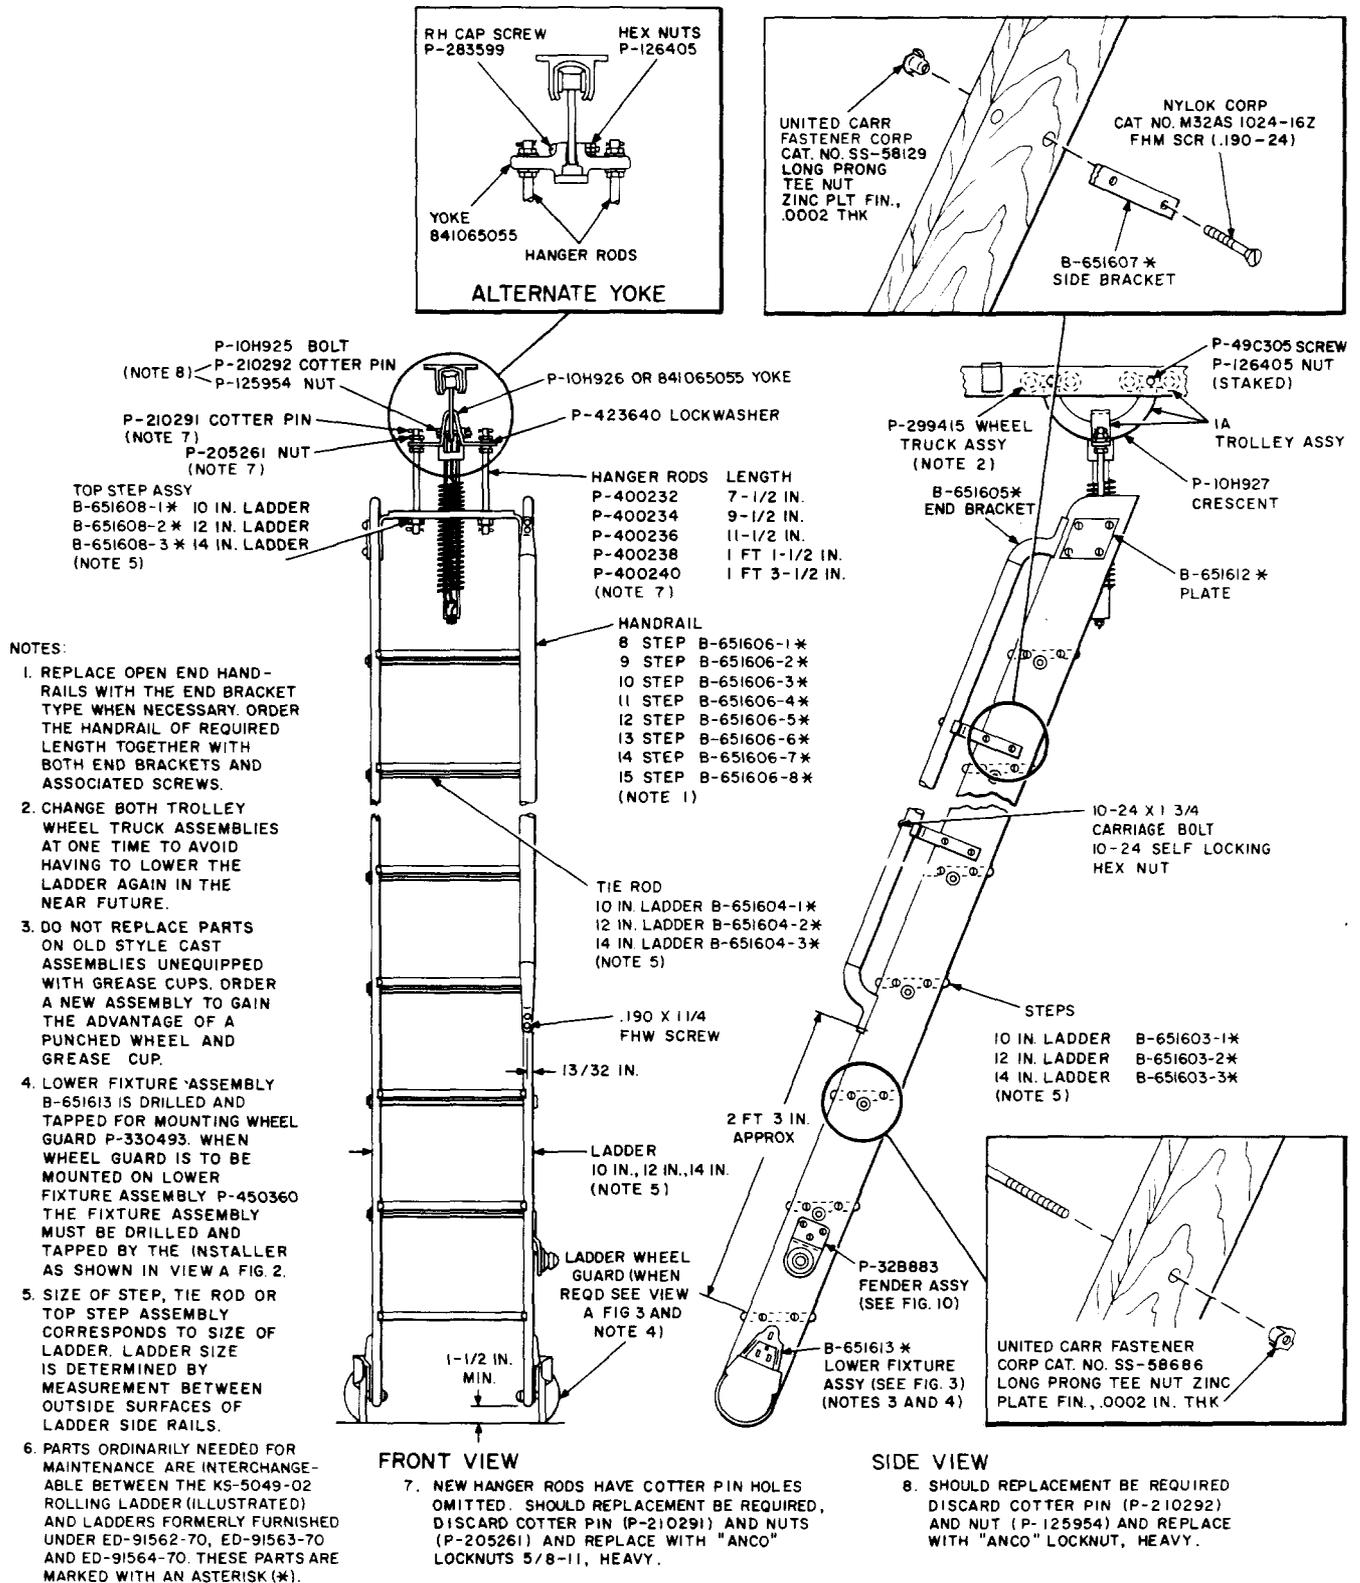

Fig. 1—Straight-Type Rolling Ladder, KS-5049-02
2.01 The figures included in this part (Fig. 1 through 10) show the various piece parts of the items and their associated assemblies. The names of parts are also included as far as practicable to facilitate identification.